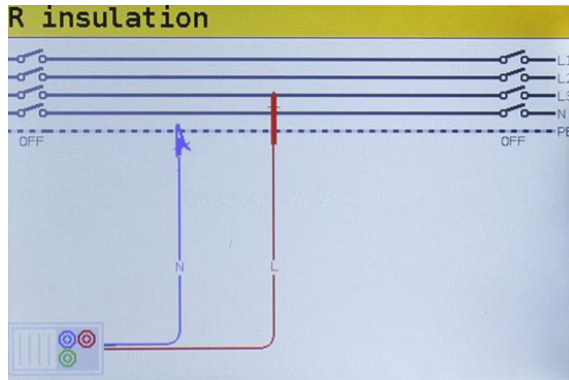

Figure 5.2: Connection of universal test cable
- Step 3** Ensure that no voltages are present on the item for testing. Connect the test leads to the ET6000 series instrument. Connect the test cables to the item under test. (see figure 5.2) to perform insulation resistance measurement.